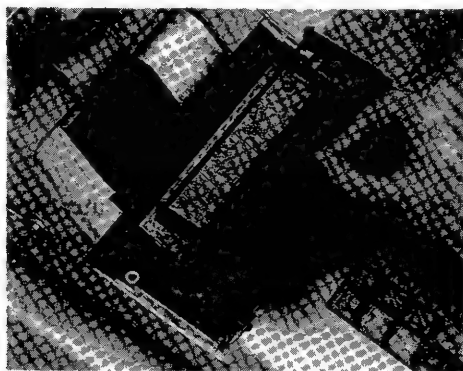

Fig 7-3.
2. Remove used ink ribbon cassette from its holder by pulling toward the keyboard (Fig. 7-3).